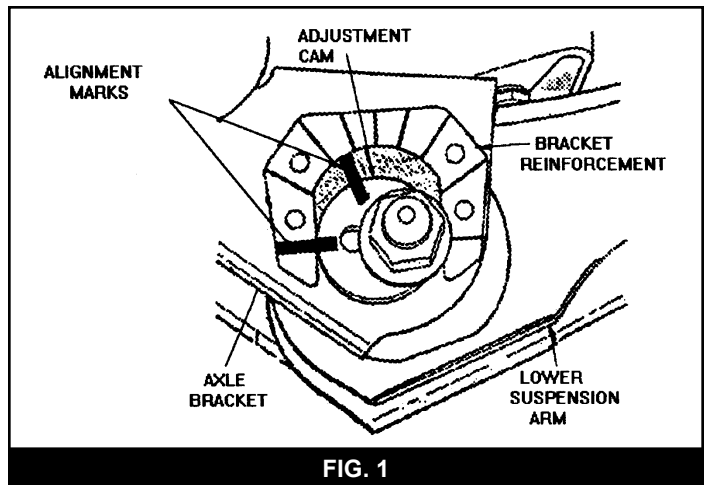

FIG. 1
2. Paint or scribe alignment marks on the cam adjuster and axle bracket. (Fig 1)